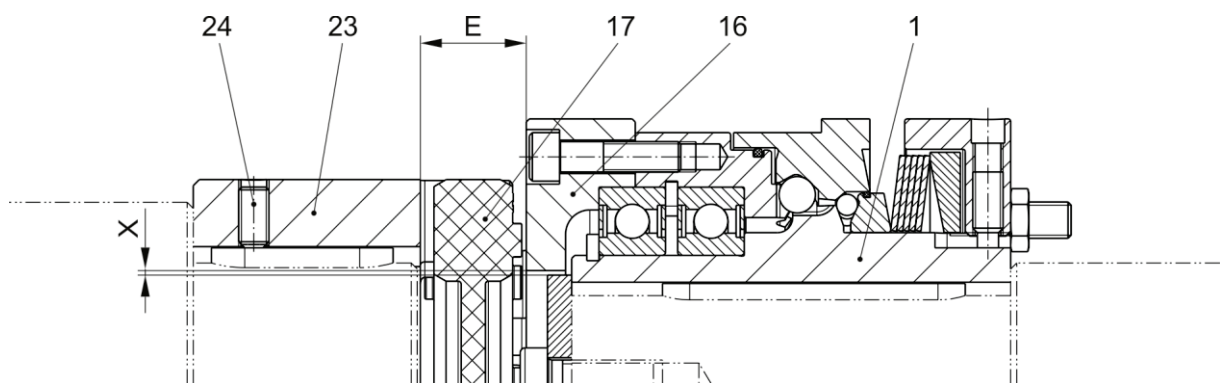

Fig. 9
- ➔ locking set screw (24) for hub (23), see Fig. 9 and Table 7 on page 8,
There must be sufficient radial air between the press cover and the inner diameter of the output element (see Fig. 9).
The distance dimension "E" acc. Fig. 9 and Table 7 must be observed!